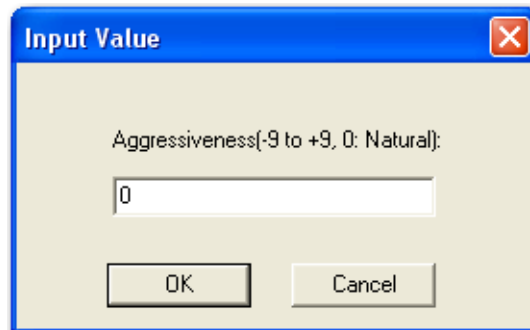

Figure 49 Aggressiveness
2. Click **OK** and the Figure 49 dialog appears.